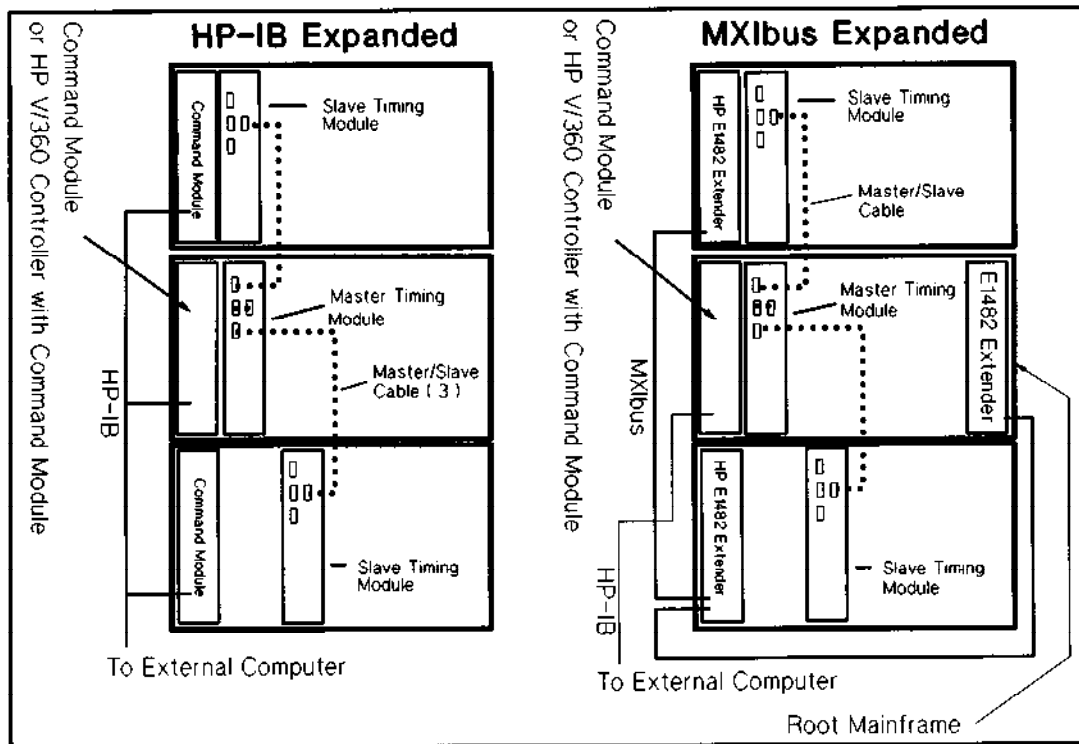

Figure 14.
- 1 HP E1493A*: One HP E1450 Timing Module and HP E1453 Timing Pod, one HP E1452 Terminating Pattern I/O Module (32 I/O pins) with two HP E1454 Pattern I/O Pods, downloadable SCPI drivers in LIF and DOS formats (two 3.5-inch floppy disks) and documentation. SCPI drivers are for downloading the SCPI language into the HP E1405B (or E1405A with System Firmware Revision A.06 or later) Command Module. The HP E1400B Mainframe and E1405B Command Module are not included in the HP E1493A. The HP E1405 Command Module is required when the HP V/360 VXIbus embedded controller is used. The HP E1405 is also required for an HP-IB extended system as shown in Figure 14.
- Second and Third HP E1400B Mainframes (Figure 14):
MXIbus using the HP E1482A VXIbus Extender (Figure 14) requires HP E1405B firmware Rev A.08.
2 Quantity indicated here is for a HP-IB extended system with external controller (Figure 14). For MXIbus expanded systems, one HP E1405B is required only for the root mainframe. In all configurations which use the HP E1405B, firmware Rev A.06 or greater is required.